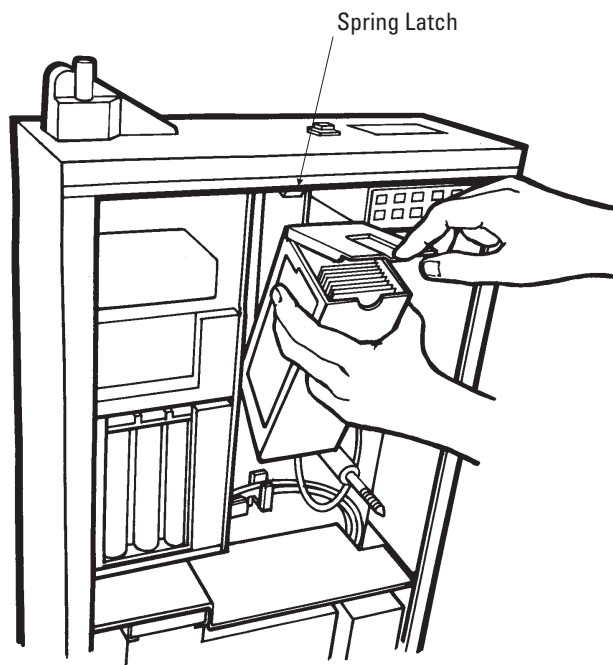

Figure 5-1:
- 1 Open the rear panel of the Tower and release the Stacker by lifting up on the spring latch, located in the groove in the top center of the Stacker (Figure 5-1). Because this hinged box drops forward when released, be sure to cradle the Stacker before you release it.